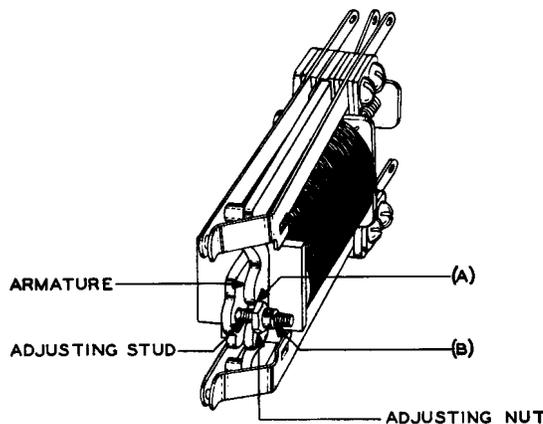

Fig. 7 - AB-type Relay
2.09 Adjusting Stud Clearance: Fig. 7(A) - The armature shall not rub against the adjusting stud.
2.10 Adjusting Nut Tightness: Fig. 7(B) - The adjusting nut shall be sufficiently tight on the stud to prevent its being turned with the thumb and forefinger. This requirement is considered as having been met if the nut does not turn under a turning pressure of one inch-ounce. In case of doubt this may be checked by the use of the No. 349 or No. 474A wrench and No. 70D gauge. With the wrench on the nut the gauge shall be applied to the wrench at the top or bottom side of the hole in the free end and the nut shall not turn with a pressure of 22 grams if the No. 349 wrench is used or a pressure of 13 grams if the No. 474A wrench is used.